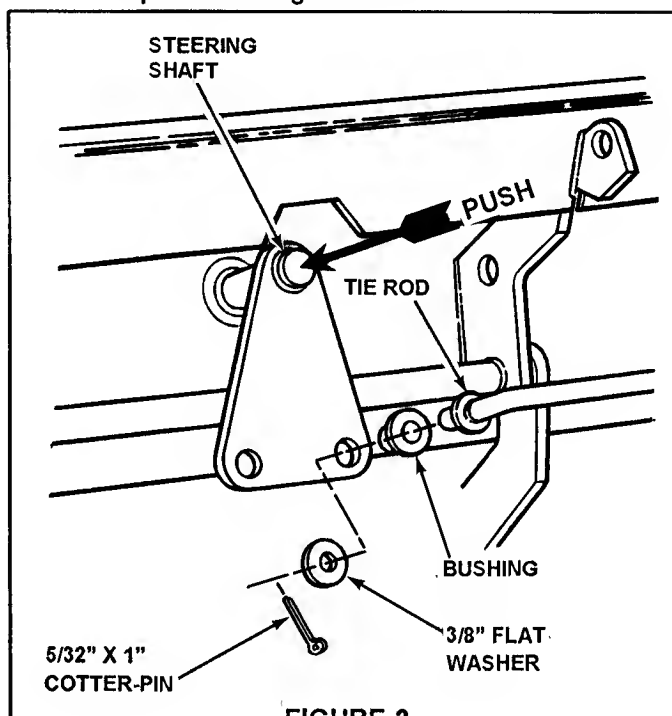

FIGURE 2
- Push steering shaft into place (see figure 2).
- Install tie rods into steering shaft. Secure with 3/8" flat washers and 5/32" x 1" cotter-pins. See Figure 2.